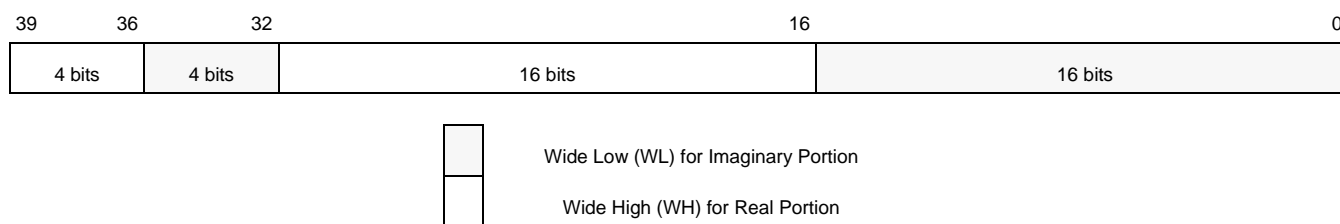

Figure 3. Dual 20-bit Packed Format
The SC3850 adds a new dual 20-bit packed fractional format in which a data register holds two 16-bit fractional operands. Each operand uses 4-bits of the extension portion of the data register as guard bits. The resulting 20-bits are referred as the wide-high (WH) and wide-low (WL) portions as shown in Figure 3. This format can also be used to store a complex number. By convention, the WH portion holds the real part and the WL portion holds the imaginary part of a complex number.